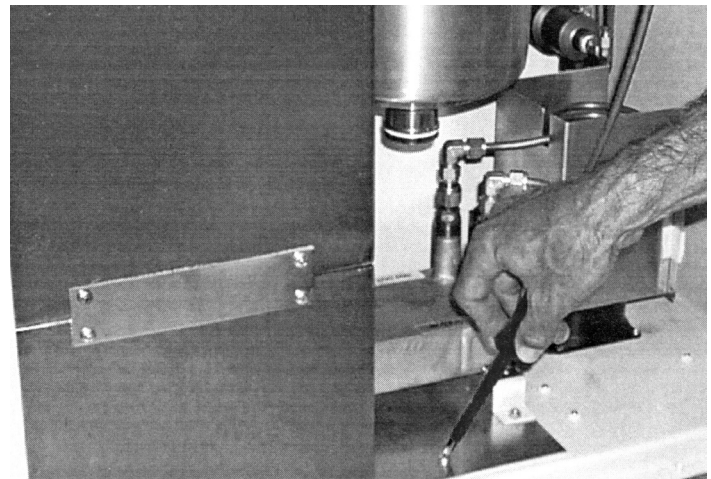

Figure 14 - Catalyst panel screw located on the left side of the unit, in front of the catalyst tower
- 8 Remove the 3 Phillips head screws that fasten the catalyst module to the frame (see Figures 14 & 15).